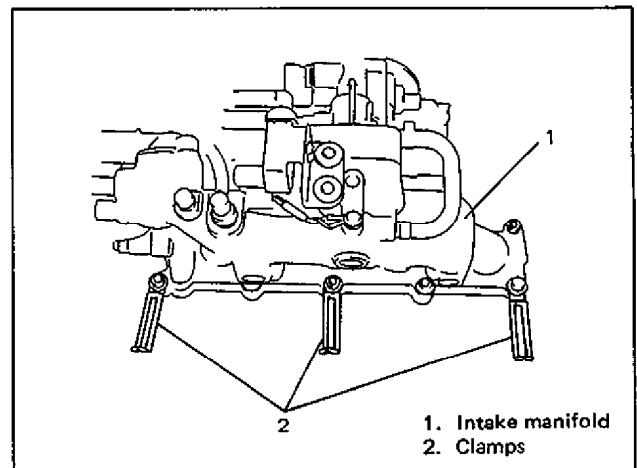

Fig. 6A-23 Clamps
- Install clamps as shown in Fig. 6A-23, and tighten bolts and nuts to specification.